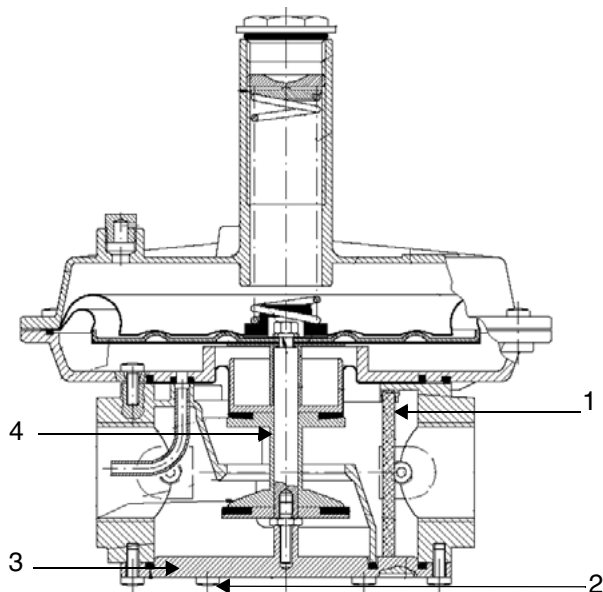
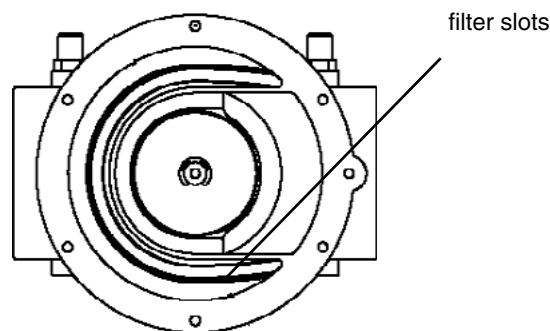

Fig. 26 - threaded body
Fig. 27 - threaded body without bottom cover
To check the filtering part (1) on threaded bodies (see Fig. 26):
- remove the filtering part (1), clean it with water and soap, blow it with compressed air or replace it if necessary;
- reassemble the filtering part in its initial position checking that it is placed in its own slots (see Fig. 27);
- reassemble the bottom cover (3), being sure that the main bolt is centered in the bottom cover slot.